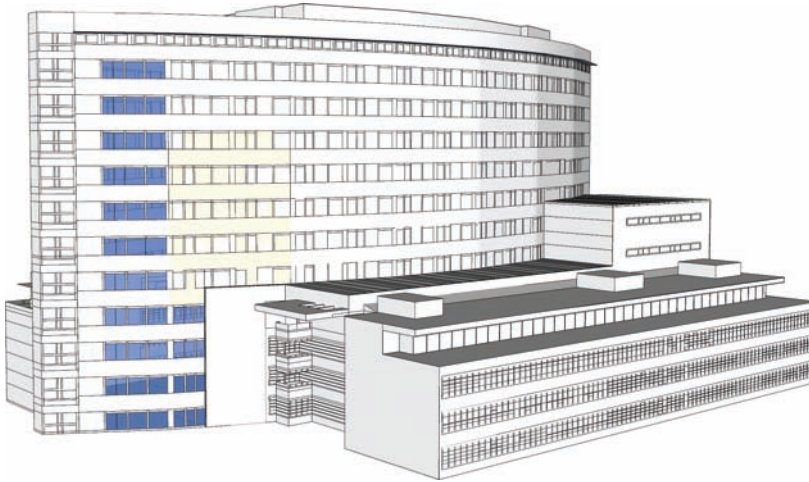
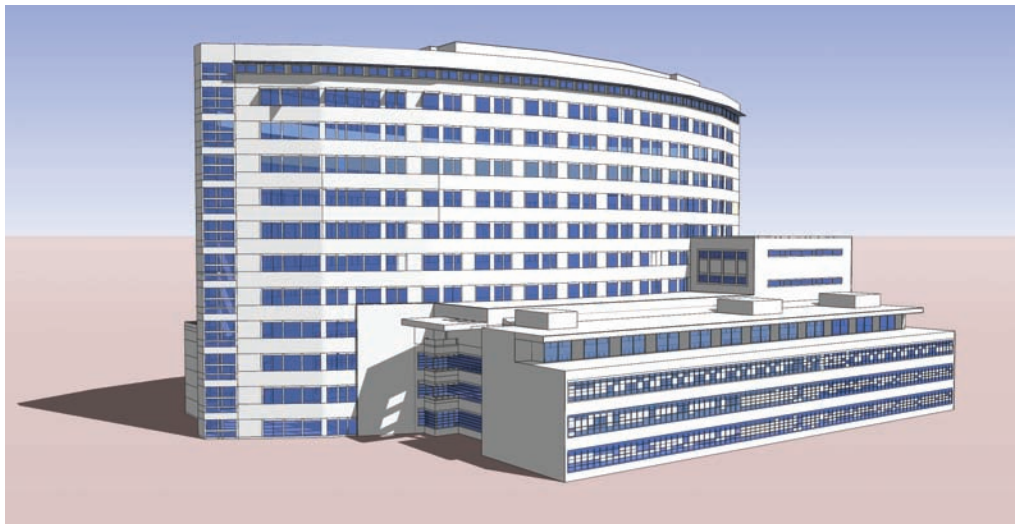

Fig. 15-7: The draped lines will subdivide the faces on the building masses. You can add color (like transparent glass) to the subdivided faces.
Fig. 15-8: The completed model.
7. The massing now has articulation that can be edited. Drape will subdivide the faces onto which it is projected. The subdivided faces on the massing can be Push/Pulled, and you can add color to them (Fig. 15-7, Fig 15-8).